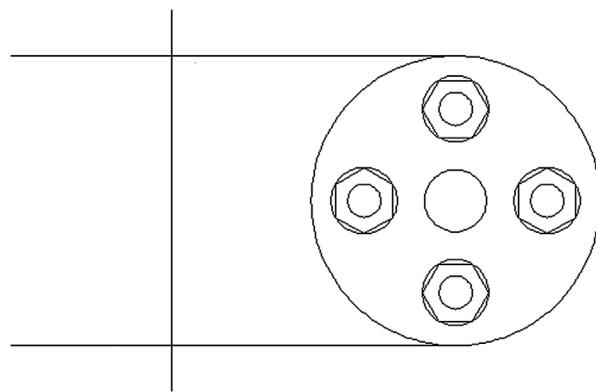

FIGURE 8.27 Projection lines.
**Step 7.** You now have to project the main body of the part based on this top view. The best way is by drawing two horizontal guidelines, of any length, starting from the top and bottom quadrants of the big circle; then, draw an arbitrary vertical line to mark the beginning of the part on the right, as shown in Fig. 8.27.